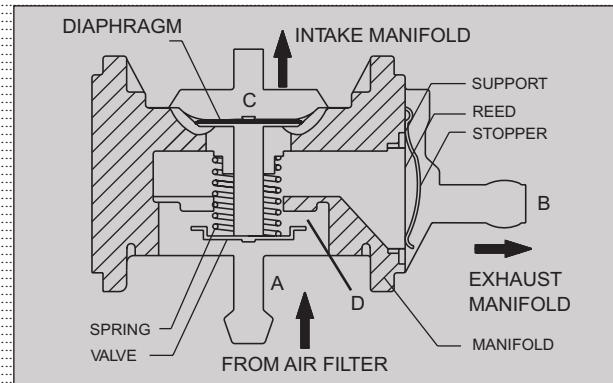

Fig. 4.46
- Clean air from air cleaner assembly is passed through the inlet port (A). The outlet (B) which has a reed valve connected to exhaust manifold. Another line from intake manifold (D) is connected to chamber (C). The port (D) has a small orifice than the other ports. The fresh and filtered air passes from port (A) to port (B). When there is a suction in chamber (C) the diaphragm is pulled up, closing the valve at (D). The airflow from port (A) to (B) is closed. Depending upon the vacuum created in the intake manifold, the amount of airflow from port (A) to (B) is controlled. (Fig. 4.46)